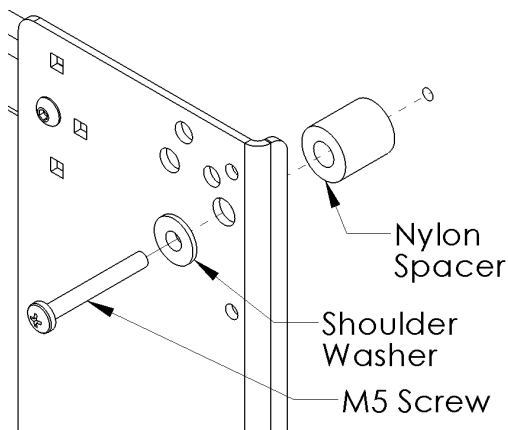
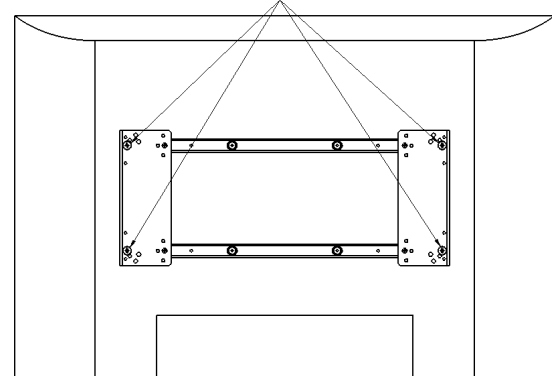

Figure 8
Figure 9
5. **Bracket Installation:** Place Nylon spacers over mounting holes of screen and attach brackets to back of display using the M5 screws (see Figure 8 & Figure 9). Do not over tighten screws.